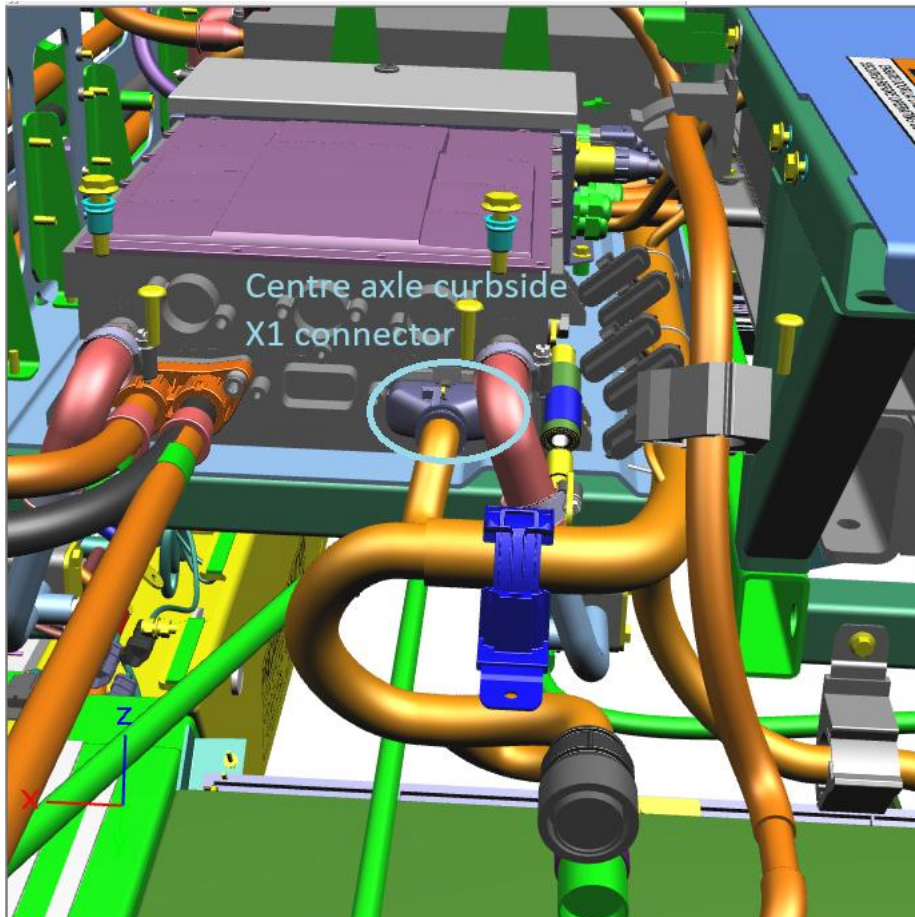

Figure 21: XE60 centre axle curbside traction inverter X1 connector highlighted in light blue
60. Locate the X1 connector on the curbside traction inverter (see figure 21) and remove it. Secure this connector nearby using Tywraps to reconnect later. Be aware the locking tab is located on the bottom of the connector and needs to be opened.